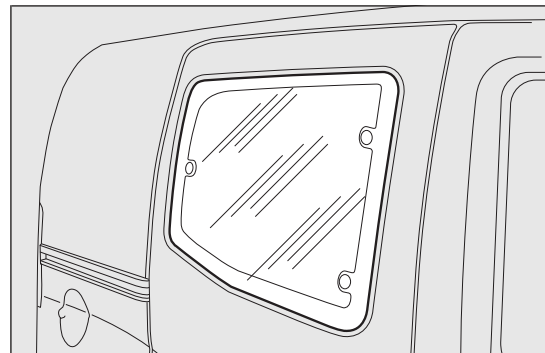
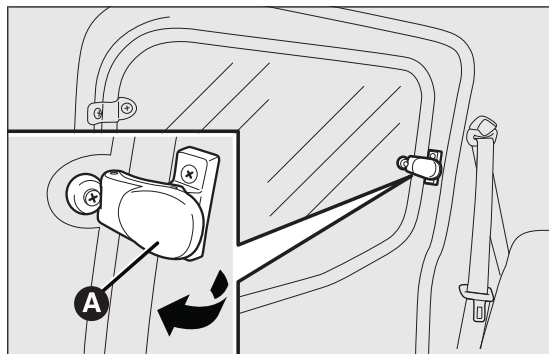

fig. 55
fig. 56
To open, proceed as follows fig. 55 fig. 56:
□ move the lever A fig. 56 outwards until the window fully opens.